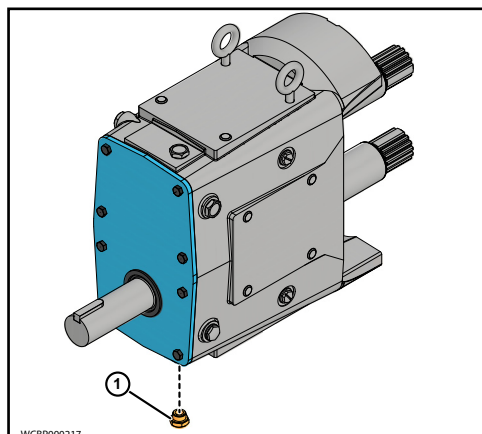

Figure 89 - Install Oil drain Plug
7. Install the oil drain plug (1), as shown in Figure 89.